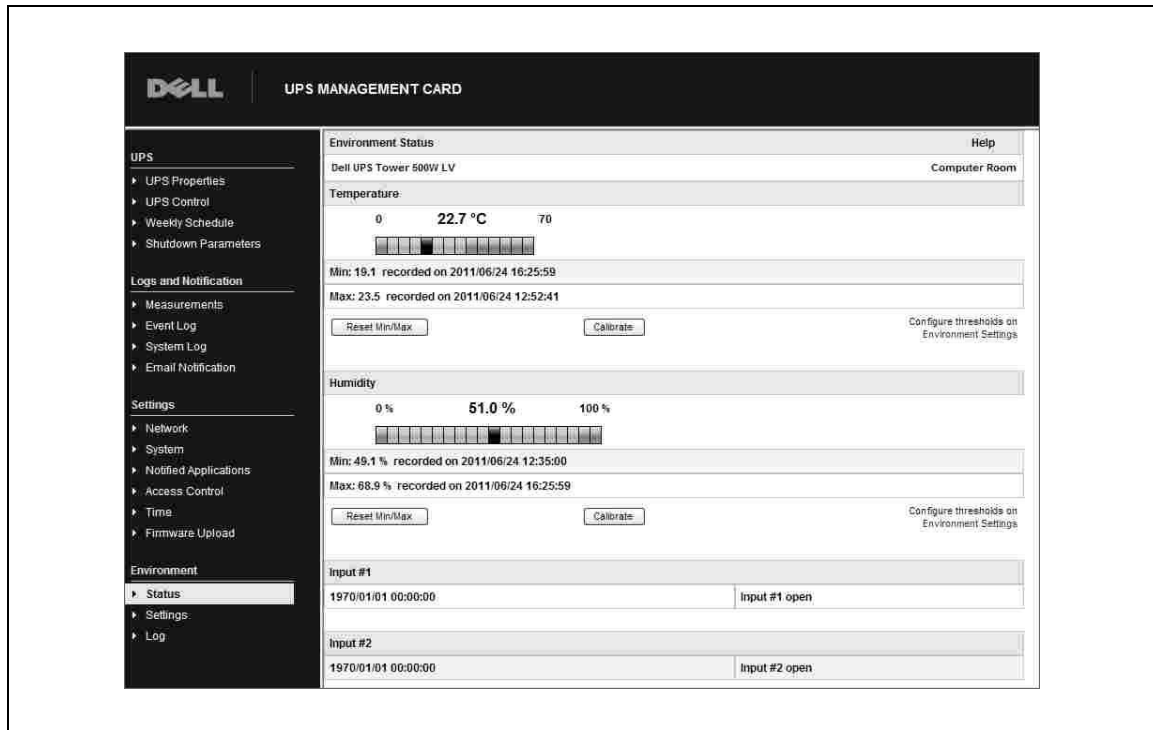

Figure 5. Sample Network Management Card Environment Status Page
- 2 Select **Status** from the Environment menu to display the temperature and humidity status (see Figure 5).